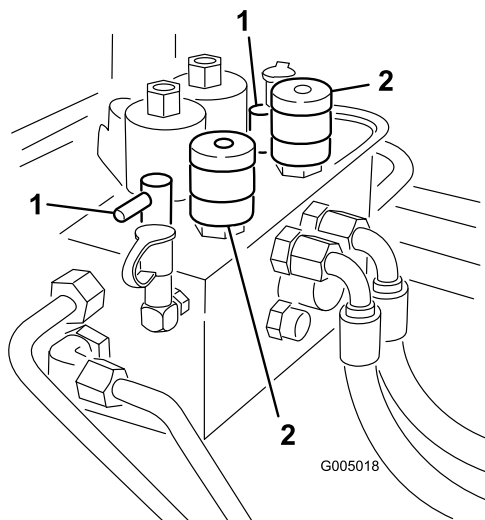

Figure 83
3. Locate the reel speed selector knobs and backlap knobs (Figure 83). Rotate the desired backlap knob(s) to the backlap position and the desired reel speed selector knob(s) to position 1.